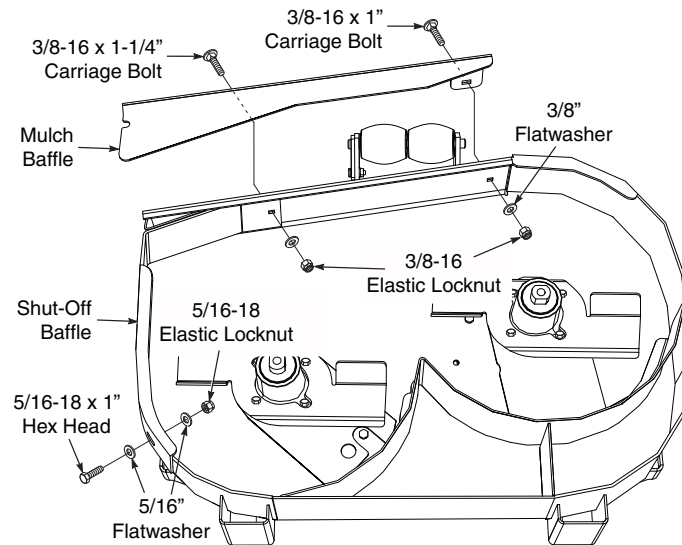

Figure 3. Mulch Baffle & Discharge Baffle Installation
- Refer to Figure 3 on Page 3 and install the Mulch Baffle to the front of the cutter deck as shown. Secure using one (1) 3/8-16 x 1" carriage bolt, one (1) 3/8" flatwasher and one (1) 3/8-16 elastic locknut. Do not tighten the hardware at this time.
- Install the Discharge Shut-Off Baffle as shown in Figure 3, Page 3 and secure to the front of the cutter deck and Mulch Baffle as shown using one (1) 3/8-16 x 1-1/4" carriage bolt, one (1) 3/8" flatwasher and one (1) 3/8-16 elastic locknut. Do not tighten the hardware at this time.
- Secure the rear of the Discharge Shut-Off Baffle to the cutter deck using one (1) 5/16-18 x 1" hex head bolt, one (1) 5/16" flatwasher and one (1) 5/16-18 elastic locknut. See Figure 3, Page 3.